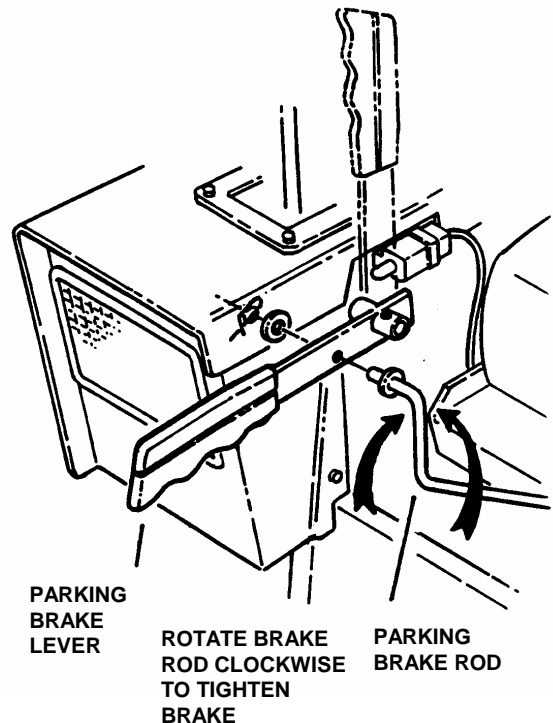

FIGURE 4.4
- 4.3.1 The park brake can be adjusted by removing the rod from the lever and rotating clockwise to increase brake tension. When properly adjusted the park brake lever should require 18 to 22 pounds force to set the brake. If this adjustment does not result in proper brake action, contact your authorized Snapper dealer for corrective action. See Figure 4.4.